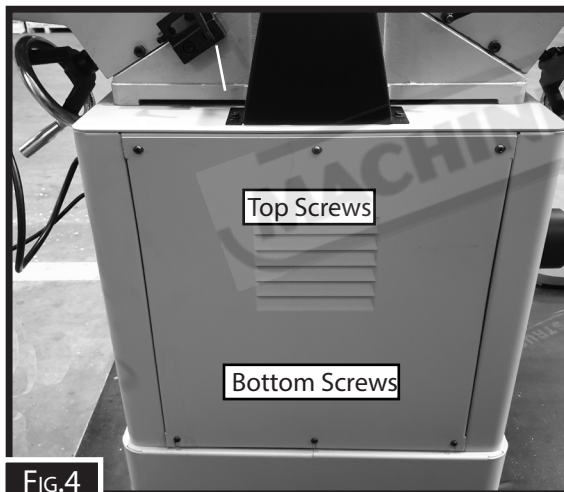

FIG.4
5. Remove the rear cover - by removing the three screws across the top and loosening them across the bottom. (Fig.4)